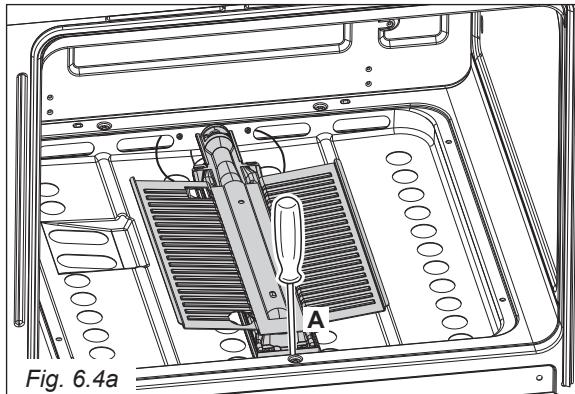

Fig. 6.4a
- Unscrew and remove the burner securing screw "A" (fig. 6.4a).